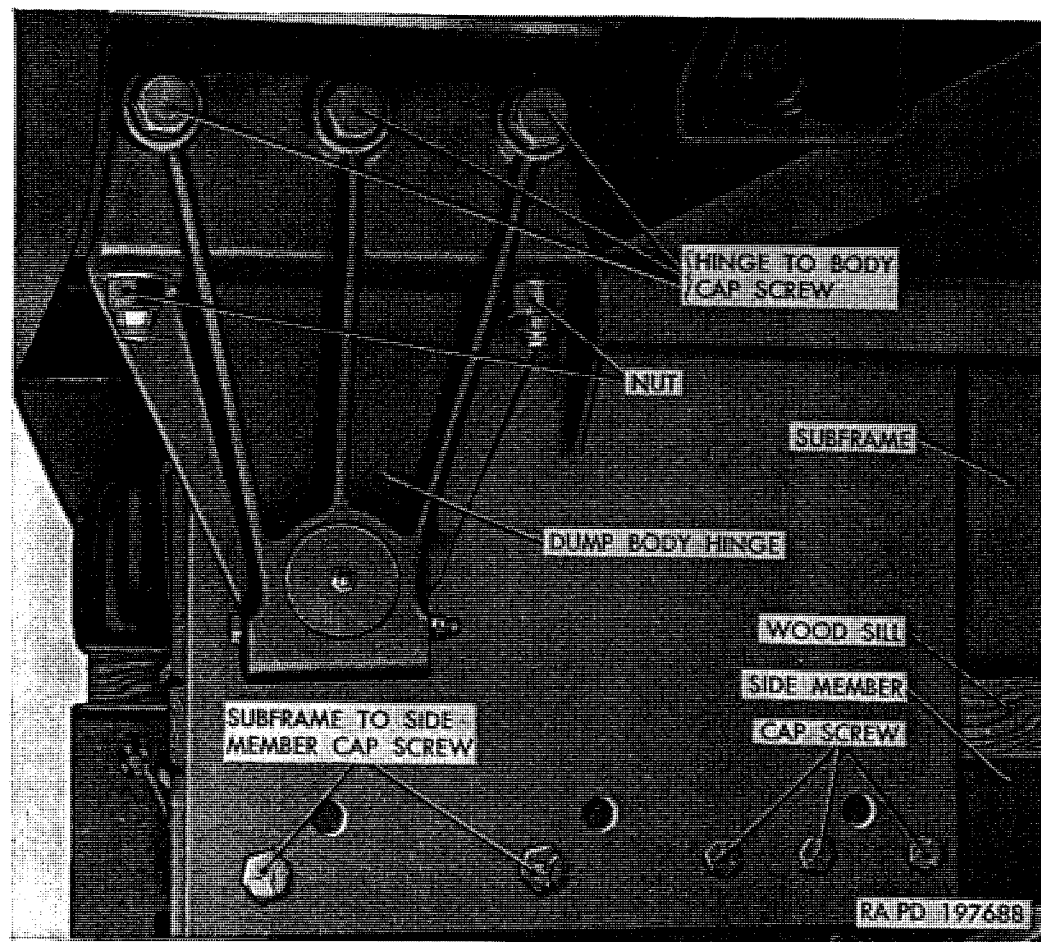
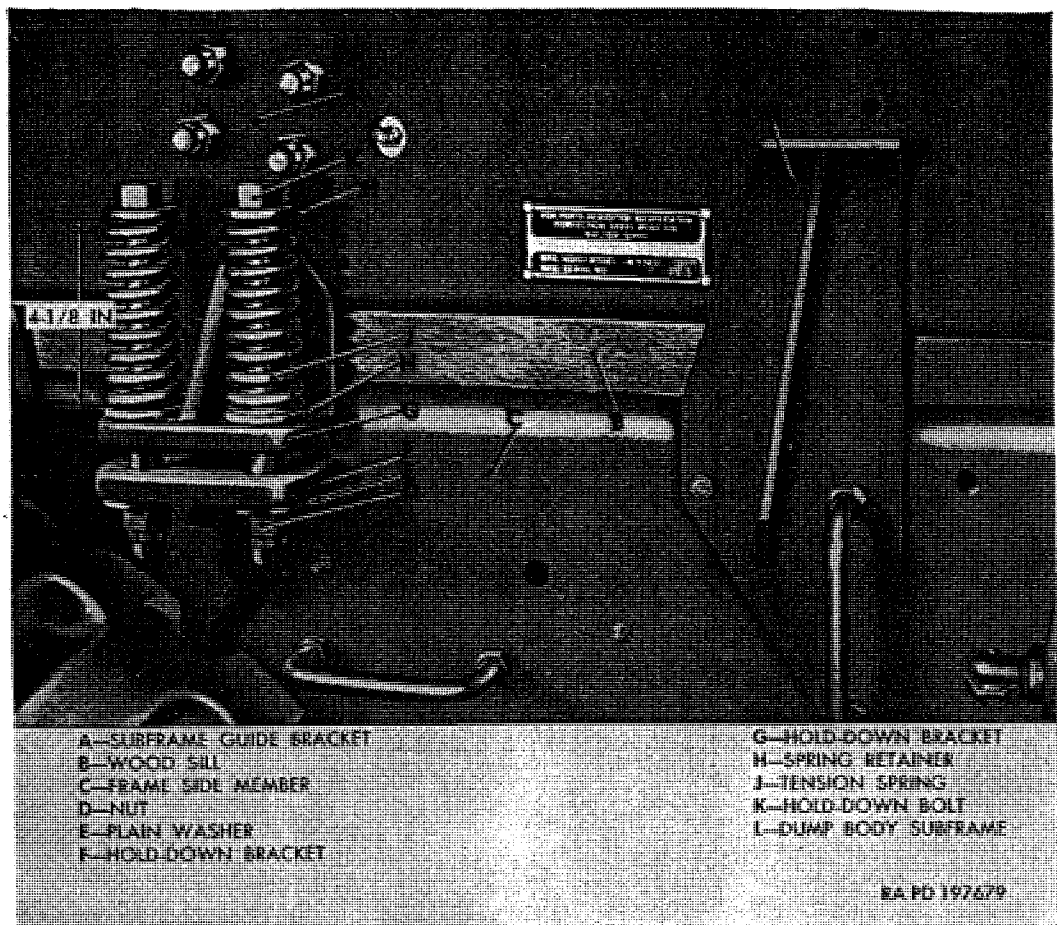

Figure 350. Body and subframe rear mounting.
Figure 351. Subframe front mounting.
b. *Body Mounting.* Body (fig. 350) is secured to subframe by hinges at each rear corner. Hinges are held to body by five cap screws and nuts. Also, each hinge is attached to subframe by a hinge pin which serves as a bearing when body is raised and lowered.
c. *Subframe Mounting.* Subframe assembly is rigidly attached to vehicle frame side member at rear (fig. 350), and flexibly mounted at front (fig. 351). Wood sill strips are used between subframe and vehicle side members.
- (1) *Rear mounting.* Subframe (fig. 350) is secured to each vehicle side member at rear by five cap screws and nuts. Cap screws should be inspected for tightness at intervals indicated in paragraph 79, table V.
- (2) *Front mounting.* Subframe mounting at each side near front is flexible-type shown in figure 351. At installation, hold-down bolts (K, fig. 351) and nuts (D, fig. 351) should be tightened until tension springs (J, fig. 351) are compressed
to 4 $\frac{1}{8}$ inches as shown in figure 351. At intervals indicated in paragraph 79, table V, inspect springs for proper compressed height and broken coils. Inspect holddown brackets to be sure they are tight at vehicle and subframe side members.